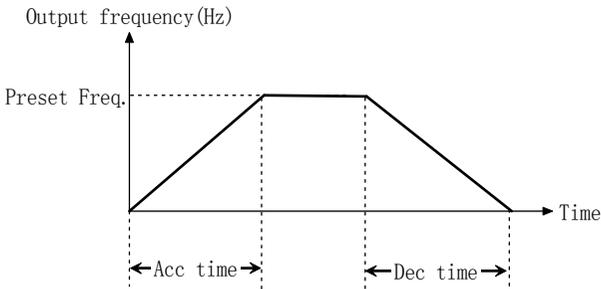

Fig. 5-1-4 Linear acceleration/deceleration
- ◆ Linear Acc/Dec mode used for ordinary load: The output frequency increases or decreases according to a constant rate. As shown in Fig. 5-1-4.